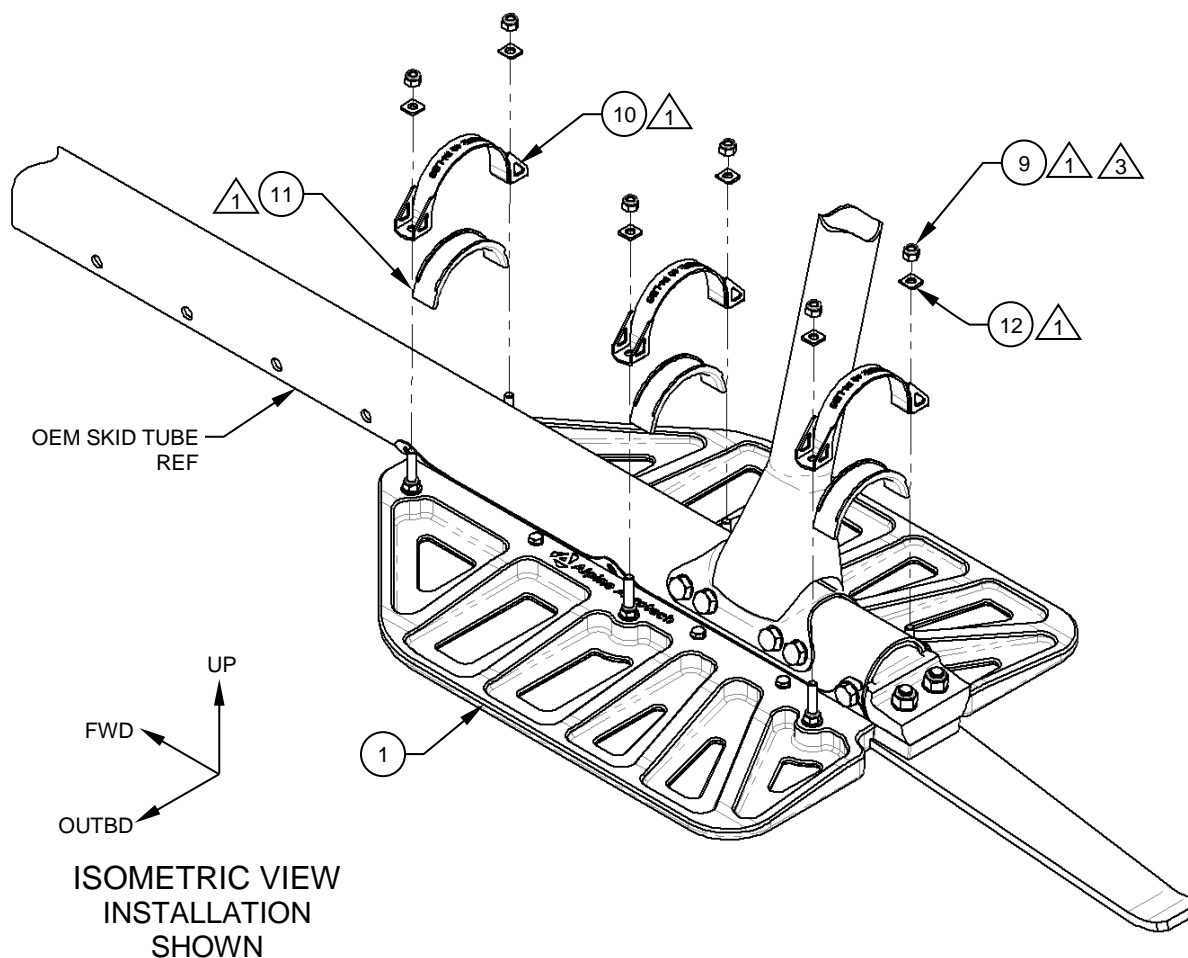

Figure 4
3. While the aircraft is raised, position the Bear Paw, Detail (Item 1) under the skid tube. Reference Figure 4.
4. Once the Bear Paw, Detail (Item 1) is under the skid tube in its approximate location, place the Strap, Assys (Item 10) and their respective Cap, Details (Item 11) on their corresponding bolts. Reference Figure 4.
NOTE: Ensure the Aft-most Strap, Assy (Item 10) and associated Cap, Detail (Item 11) are positioned between the cross-tube saddle fitting and the existing bolt at the aft end of the skid tube. Reference Figure 4.
6. Lower the aircraft onto the Bear Paw, Details (Item 1). After ensuring sufficient clearance between the Bear Paw, Details and the spring blade, torque the fasteners equally to 40 in/lbs. (plus tare torque). Reference Figure 4.